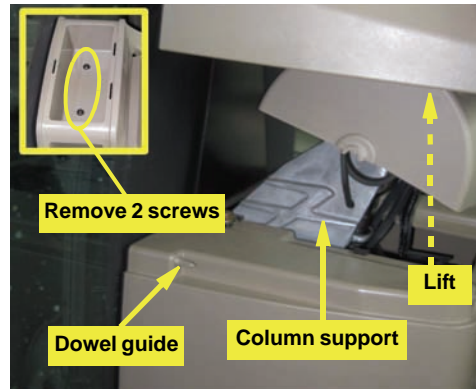

Figure 1a (with inset): Removing steering column cover screws
- a. Remove the two screws in the front compartment of the upper steering column cowl and lift the cowl to expose the steering column support (Figure 1a and inset).